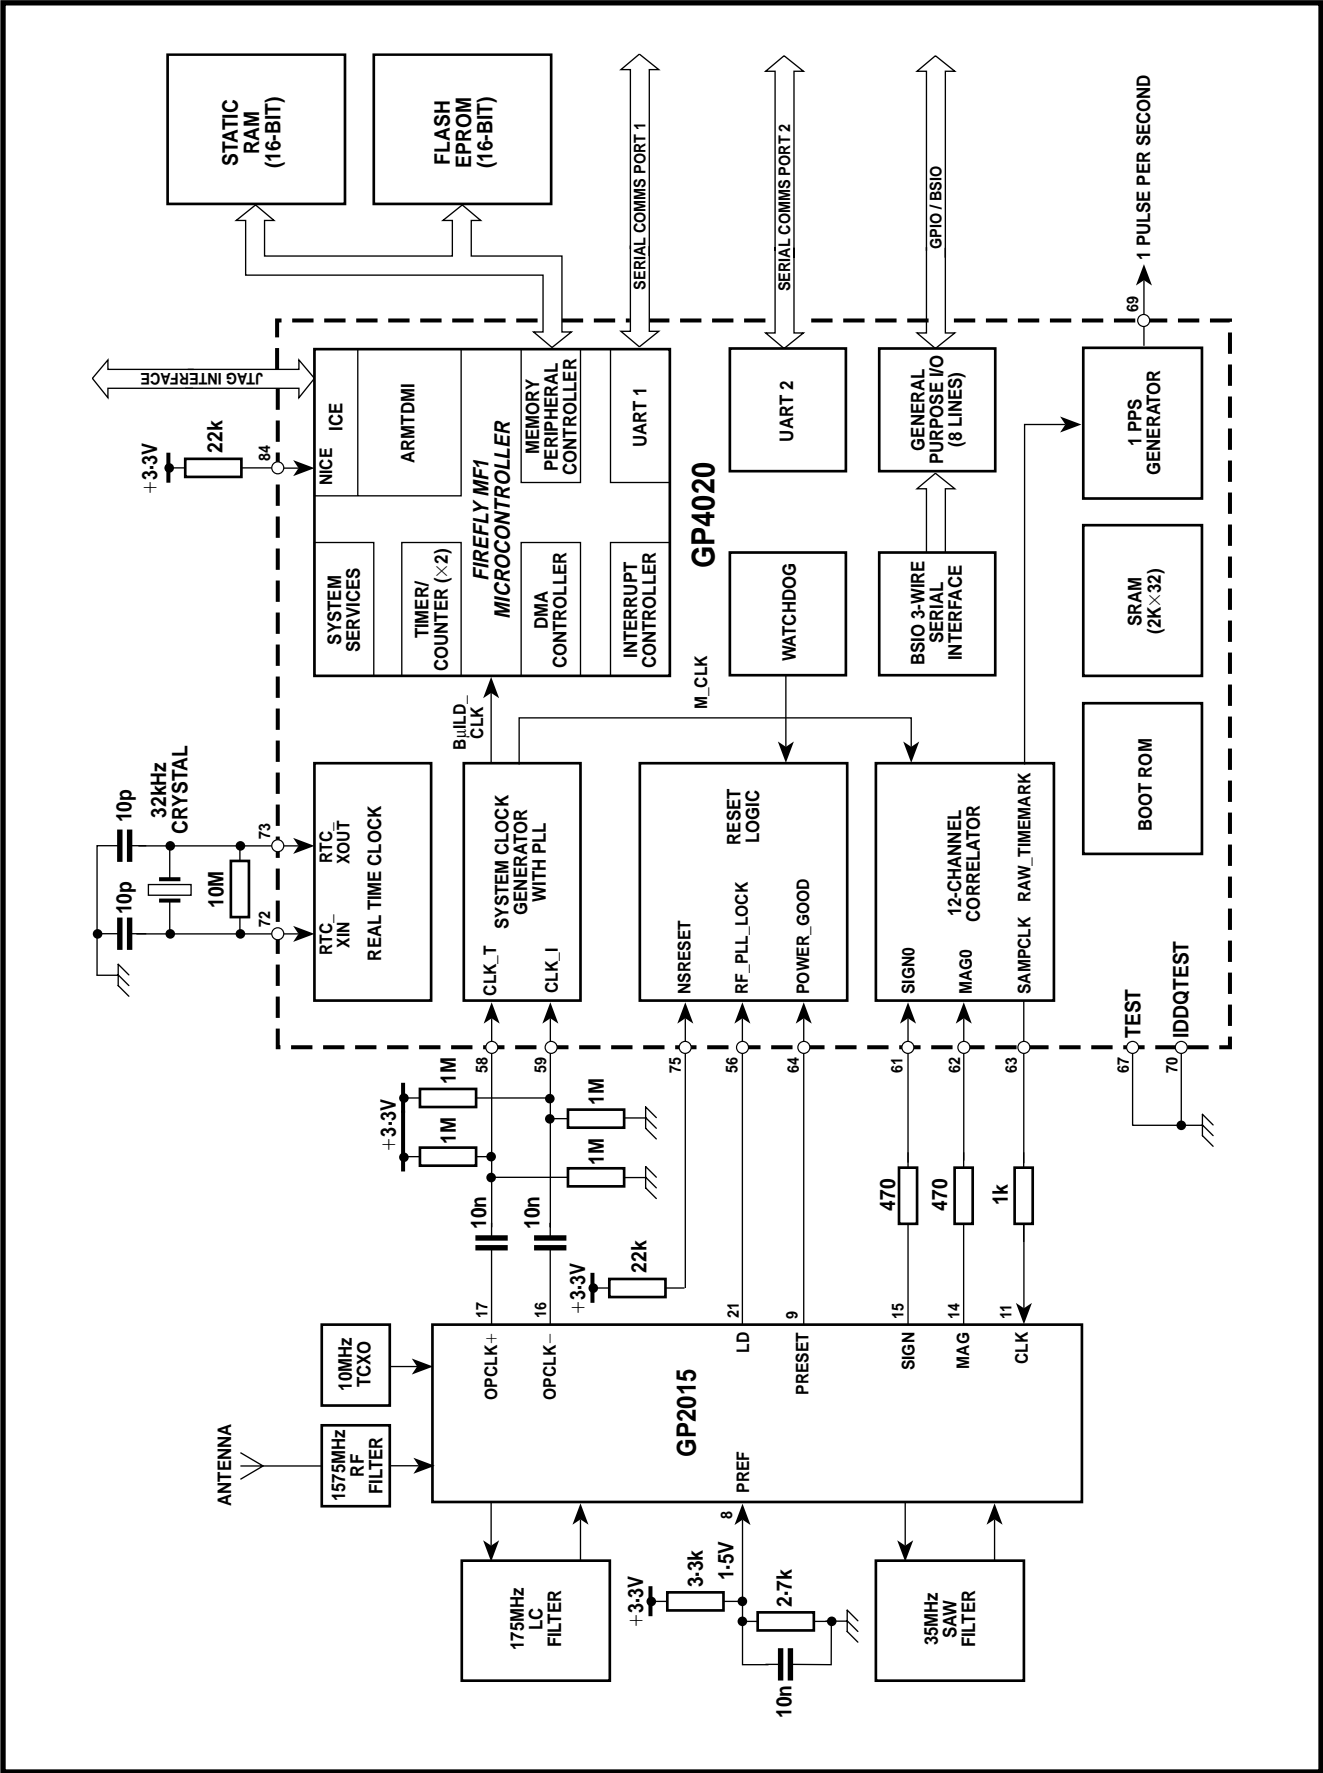

Figure 3 - Block diagram of a typical GP4020-based GPS receiver
- Both CLK_T (pin 58) and CLK_I (pin 59) should not have an external DC bias of GREATER than +1.7V. Direct connection from a GP2010/GP2015 RF front end is NOT possible, without bias-shift circuit (Figure 3).
Figure 3 shows a typical GPS receiver employing a GP2015 RF front end and a GP4020 correlator.